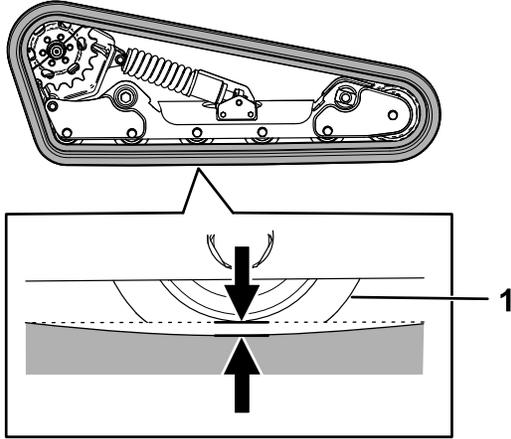

Figure 56
Lift/support 1 side of the machine and using the weight of the track, verify that the gap between the bottom of the lip of the road wheel and the track is 12.7 mm (1/2 inch) as shown in Figure 56. If it is not, adjust the track tension using the following procedure.
5. Using a 1/2 inch drive ratchet, turn the tensioning screw until the track deflection is 12.7 mm (1/2 inch) as shown in Figure 56.
9. Verify that the track deflection is 12.7 mm (1/2 inch) as shown in Figure 56. Adjust if necessary.
- Using a 1/2 inch drive ratchet, turn the tensioning screw counter-clockwise until the track deflection is 12.7 mm (1/2 inch) as shown in Figure 56.
25. Verify that the track deflection is 12.7 mm (1/2 inch) as shown in Figure 56.